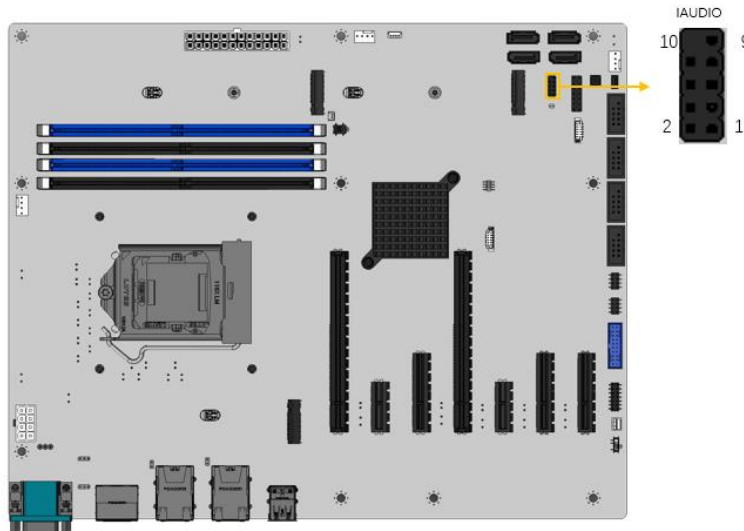

Figure 3-13: Audio Connector Location
- CN Location:** See Figure 3-13